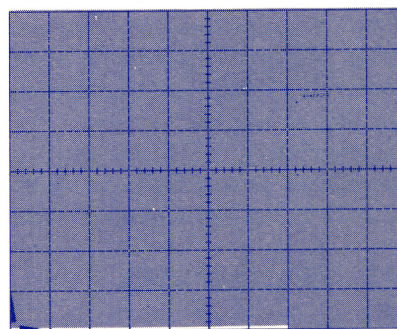

Figure 4-1. Display showing 7 V across SCR.
- 3) Apply power to device — Position LEFT-RIGHT switch on 177 to appropriate side. *Slowly* increase VARIABLE COLLECTOR % supply until specified voltage (horizontal) is attained. [7 divs horizontal]. See Figure 4-1. 34 8